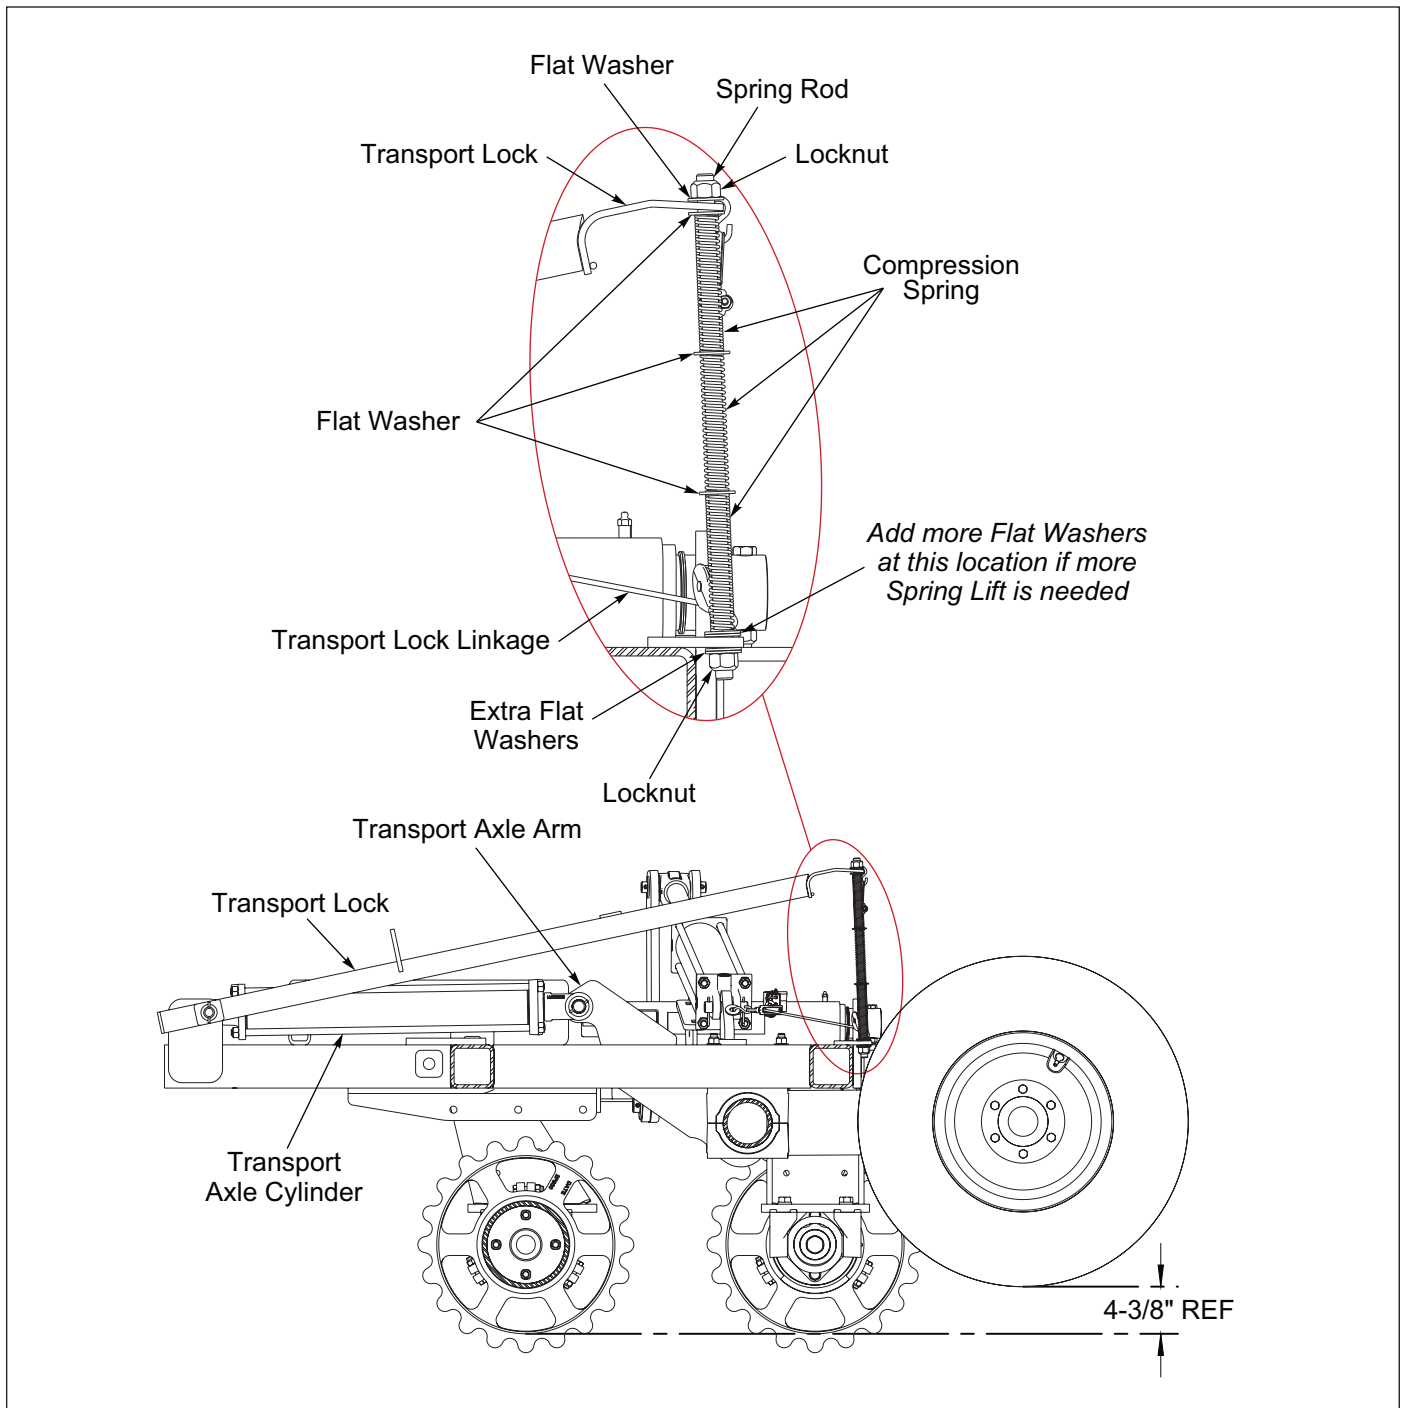

Figure 3-7: Transport Lock - Unlocked Position
2. Reverse tractor hydraulic lever to extend the Lift Cylinder completely allowing the pair of compression springs to push the Transport Lock up and out of the way of the Lift Cylinder. If more spring lift is needed to release the Transport Lock, add Flat Washers to the bottom of the springs. **See Figure 3-7.**